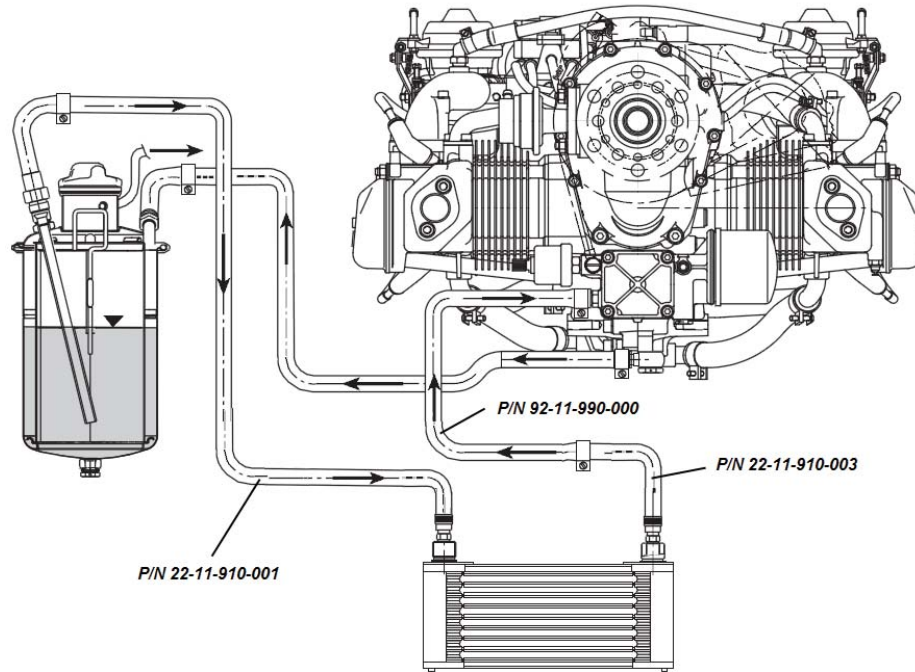

Figure 2 – Old oil system scheme
- 6 With reference to Figure 2 proceed with the following operations.